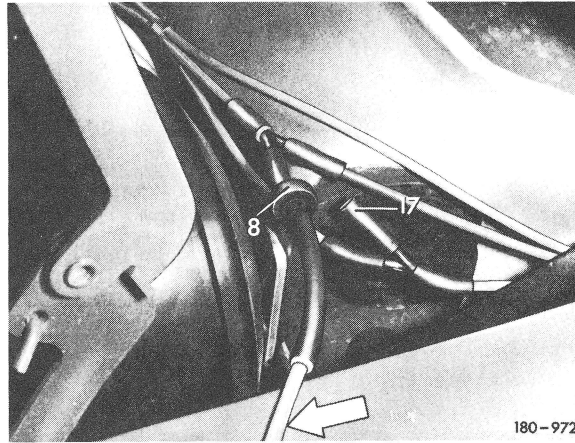

Fig. 4
Pull check valve (8) out of connection (17) and connect tester (refer to arrow), evacuate and read pressure gauge (Fig. 4).